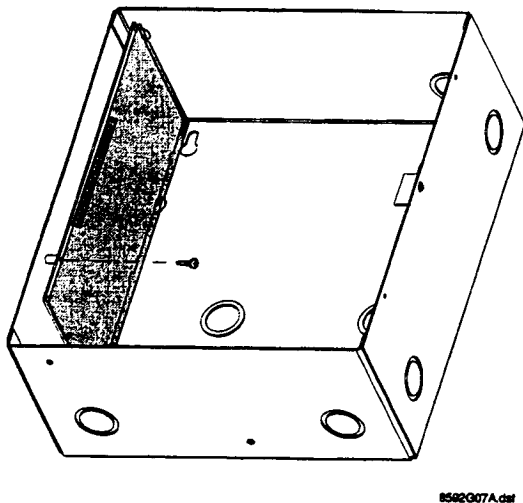

Figure 3. Installing the Card to the Enclosure
2. With the terminal strip up, slide the card into the three card slots in the left side of the enclosure as shown in Figure 3.